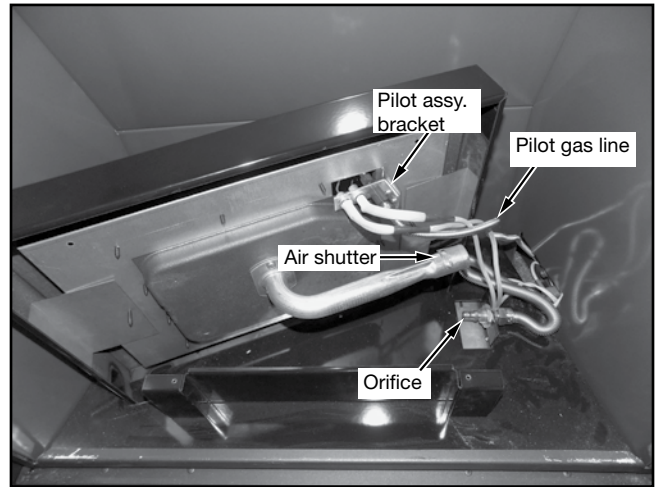
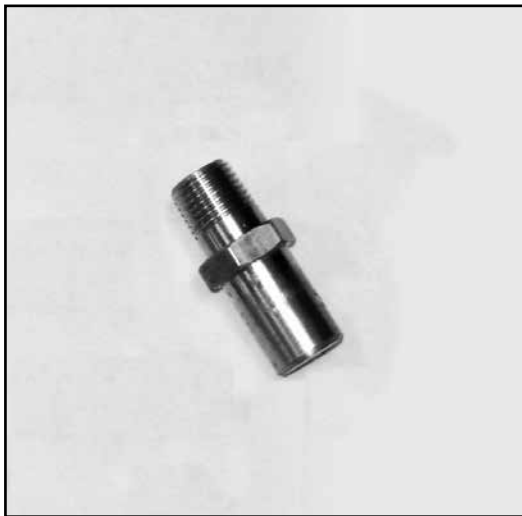
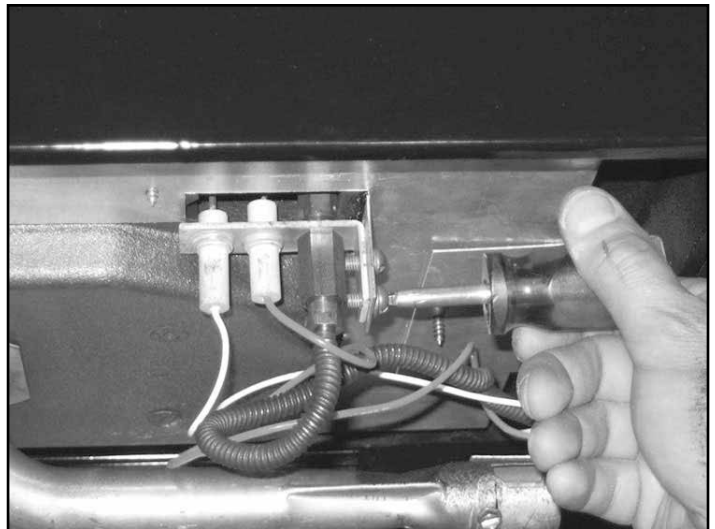

Figure 32: Underside of burner.
Figure 33: Orifice.
Figure 36: Removing pilot assembly.
7. Gently lift up the burner tray from its supports while sliding it to the left to disengage the burner tube from the orifice. Lift the tray, turn it on its side and lay it on its edge to expose the orifice and the pilot assembly (Figure 32). Remove the pilot assembly bracket with its wires and pilot gas line attached while the burner kit is on its side (See “Figure 36” on page 18).
8. Using a 1/2” wrench, undo the natural gas burner orifice (Figure 32) and replace with the propane gas orifice that comes with the conversion kit (Figure 33). Apply a small amount of pipe joint compound to the threads of the propane burner orifice to ensure a good seal, before screwing it into the fitting.
10. Remove the 2 screws holding the pilot assembly in place with a short screwdriver (Figure 36).